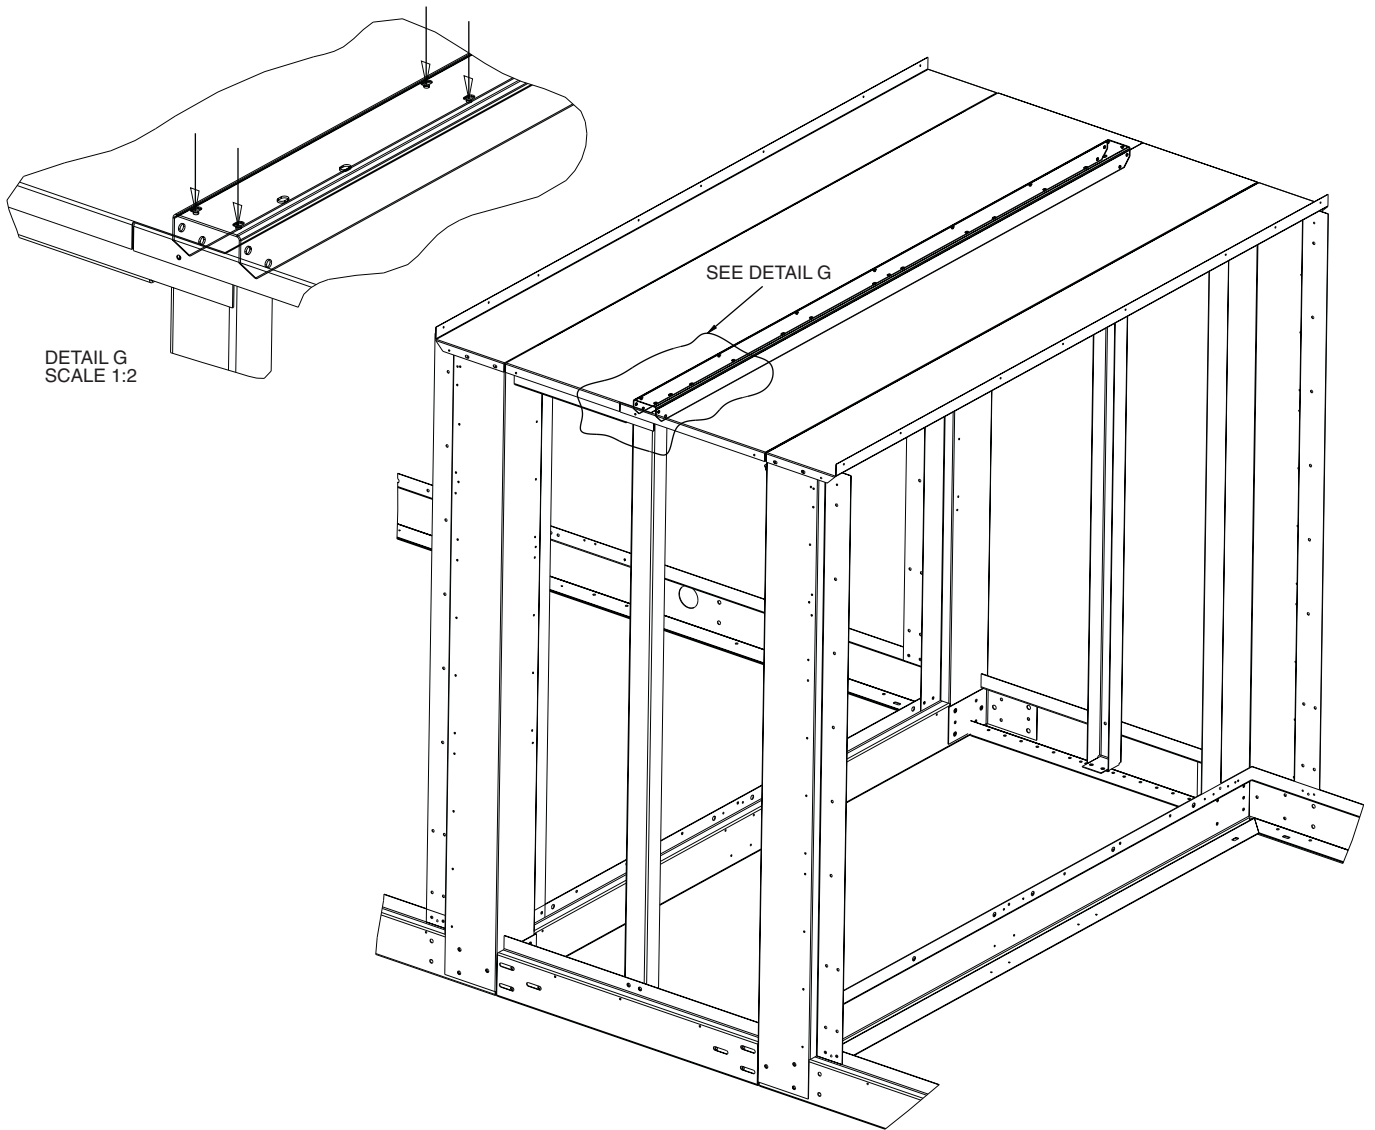

Fig. 5 — Top Cover Mounting
10. Using the 1/4-in. screws provided (Item 8), mount the two top covers (Item 3) as shown in Fig. 5. The covers are designed to overlap each other along the long edges with no flanges. Secure the two covers to the center support channel with 14 screws.